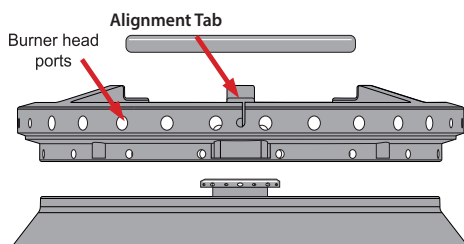

Figure 30: Burner head ports
1. Lift the burner cap from the burner head to clean the burner head and ports (See Figure 30).